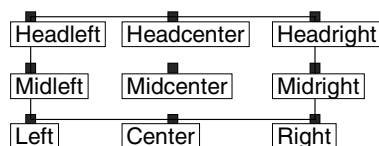

Figure 4-2. Text anchor positions—values for the **AN** parameter.
- Use the **AN** (*textanchor*) parameter to specify the position of the anchor point relative to the text. There are nine possible anchor positions, as shown in Figure 4-2.